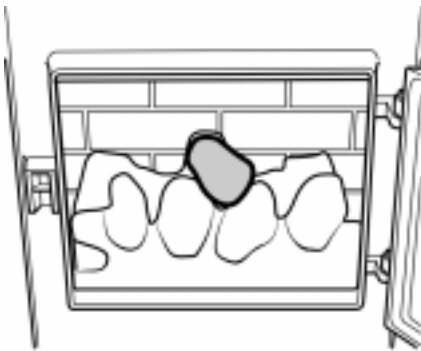

Figure 8
6. Locate one of the ceramic coals identified with a number '1' as in figure 8.